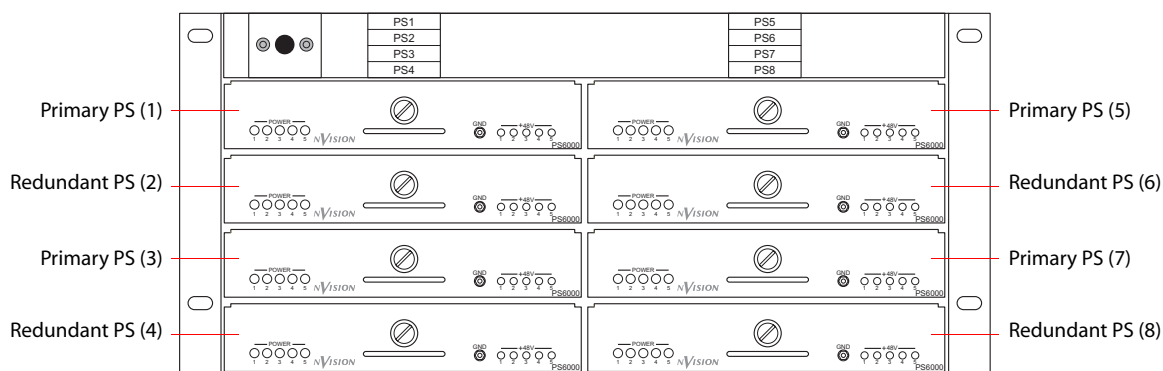

Figure 3-3. NV6257 Power Supply (Front View)
- a Facing the front of the NV6257, install the primary PS6000 power supply modules in slots *PS 1*, *PS 3*, *PS 5* and *PS 7*, as shown in Figure 3-3.
- b (Optional) Facing the front of the NV6257, install the redundant PS6000 power supply modules in slots *PS 2*, *PS 4*, *PS 6* and *PS 8*, as shown in Figure 3-3.